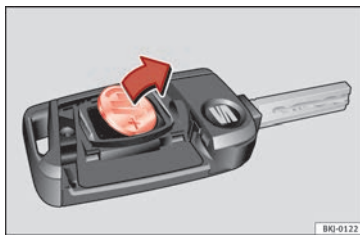

Fig. 139 Vehicle key: removing the battery.
- Extract the battery from the compartment using a suitable thin object **» Fig. 139.**
- Place the new battery in the compartment as shown **» Fig. 139**, pressing in the opposite direction to that shown by the arrow **» ①.**